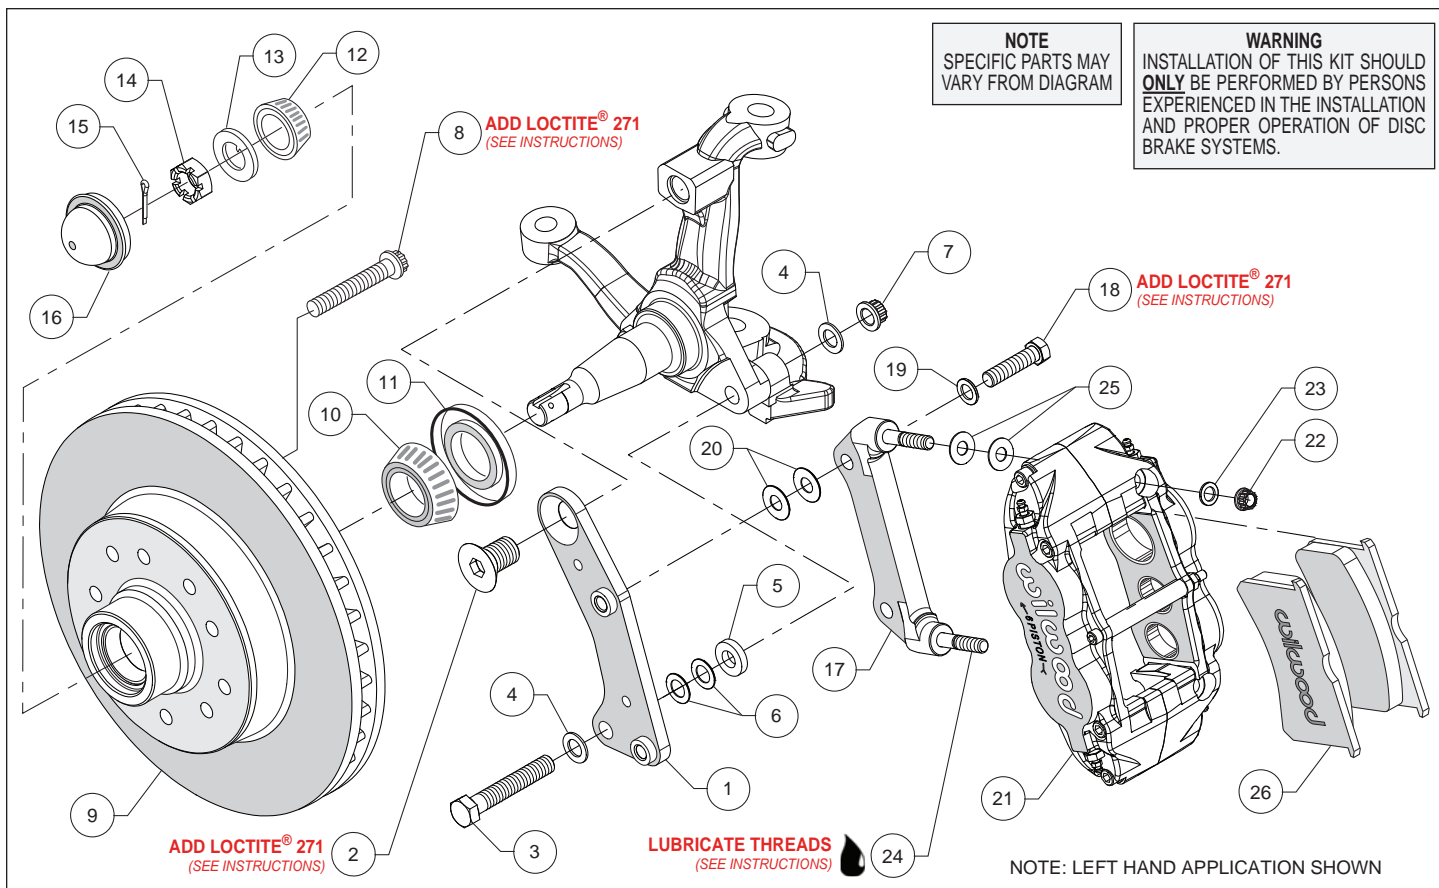
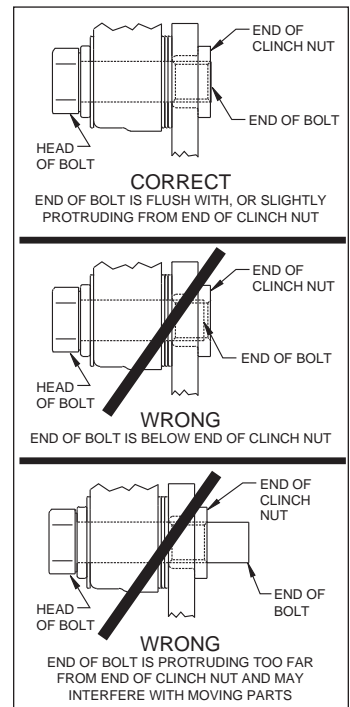

Figure 1. Typical Installation Configuration
Figure 3. Clinch Nut Engagement Diagram
Assembly Instructions (numbers in parenthesis refer to the parts list and Figure 1 on the preceding pages): **CAUTION:** All mounting bolts must fully engage clinch nuts. Be sure to check that all bolts are either flush or protruding through flanged side of clinch nut after shimming, Figure 3.
- The flat bracket (1) should initially be installed with clean, dry threads on the mounting bolts. Orient the flat bracket as shown in Figure 1 and Photo 1, and install using bolts (2 and 3), nuts (7), washers (4) and spacer (5), Figure 1. Initially place two .032" thick shims (6) on the lower bolt between the bracket and spacer, Figure 1. Ensure that the flanged heads of the clinch nuts in the bracket are facing outboard, Photo 1. Temporarily tighten the mounting bolts. **NOTE:** The bracket must fit squarely against the mounting points on the spindle. Inspect for interference from casting irregularities, machining ridges, burrs, etc. Later, after the bracket alignment has been checked, the upper bolt will be secured using red *Loctite*® 271.
- Install the grease seal (11) by pressing into the backside of the hub/rotor (9), flush with the end of the hub, Photo 4.
- Temporarily install the hub/rotor (9) onto the spindle using outer bearing (12), spindle washer (13), and spindle nut (14). Check that the caliper mounting bracket (1) is aligned parallel to the rotor, Photo 5. If not, adjust by adding or subtracting shims (6) on the lower bolt between spacer and bracket, Figure 1. Once the bracket alignment is correct, remove the upper bolt (2), apply red *Loctite*® 271 to the threads and torque to 150 ft-lbs. Torque nut (7) to 65 ft-lbs.
- Press the dust cap (16) into the hub/rotor (9), Photo 8. always apply pressure to the flange of the dust cap, not the center.
- NOTE:** Please reference the caution statement at the beginning of the assembly instructions. The caliper mount bracket (17) should initially be installed with clean, dry threads on the mounting bolts. Orient the bracket as shown in Figure 1 and Photo 9 and install using mount bolts (18) and washers (19). Initially place two .030" thick shims (20) on each bolt between the caliper bracket (17) and spindle bracket (1), Figure 1. Temporarily tighten the mounting bolts. Later, after the caliper alignment has been checked, the mount bolts will be secured using red *Loctite*® 271.
• **NOTE:** This kit contains distinct right and left hand calipers that must be mounted in a specific direction, as described below. Lubricate the caliper mounting studs (24) with lightweight oil. Initially place two .035" thick shims (25) on each stud between the caliper and the bracket, as shown in Figure 1 and Photo 10. Mount the caliper (21) onto the bracket (17) using lock nuts (22) and washers (23), Figure 1. Ensure that the caliper is mounted so that the largest pistons are at the rotor exit end of the caliper, in relation to the direction of rotor rotation. Temporarily tighten the lock nuts and view the rotor through the top opening of the caliper. The rotor should be centered in the caliper, Photo 11. If not, adjust by adding or subtracting shims (20) between the caliper bracket and the spindle bracket. Always use the same amount of shims on each of the two mounting bolts. **NOTE:** The end of each bolt must be flush with or slightly protruding from the head of the clinch nut, as shown in Figure 3. If necessary place spare shims between washer (19) and caliper mounting bracket (17) to achieve the proper clinch nut engagement. Once the caliper alignment and clinch nut engagement are correct, remove the bolts one at a time, apply red *Loctite*® 271 to the threads, and torque to 60 ft-lb.